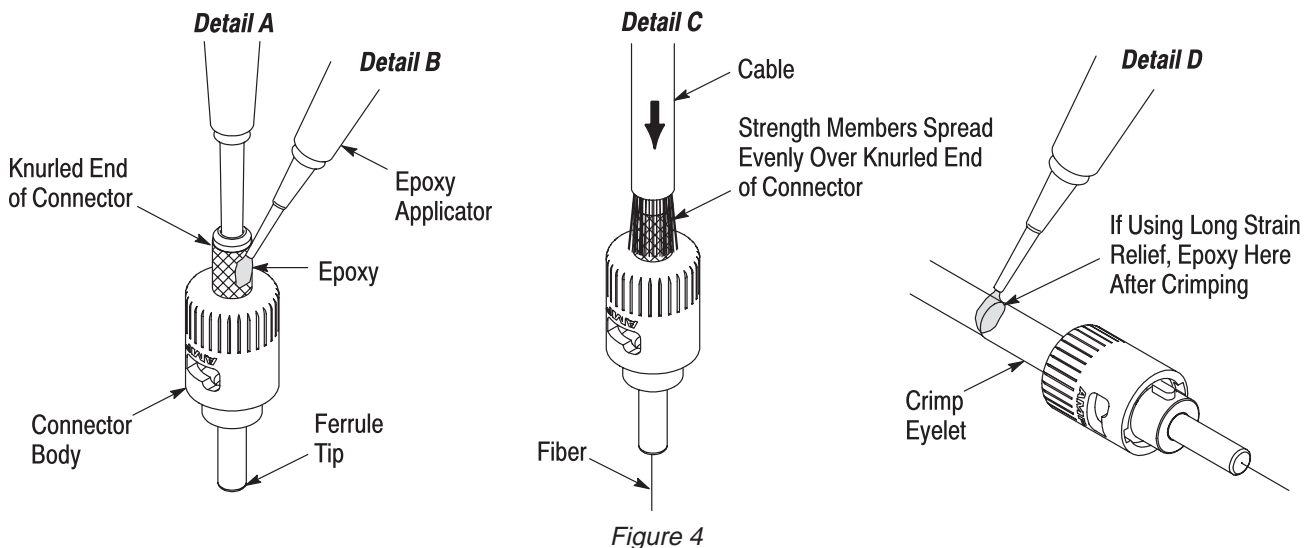

Figure 4
1. Remove the protective cover from the connector. Hold the connector with the knurled end up. Insert the tip of the epoxy applicator as far as possible into the connector body. See Figure 4, Detail A.
4. Apply a drop of epoxy to the outside of the knurled end of the connector, and distribute it evenly around the circumference of the knurled end. See Figure 4, Detail B. DO NOT allow any epoxy on the coupling nut or spring area.
appear at the tip of the ferrule. Refer to Figure 4, Detail C. Make sure that the strength members are spread out evenly over the knurled end of the connector. See Figure 4, Detail C.
7. Slide the crimp eyelet toward the connector until it contacts the connector shoulder, trapping the strength members against the knurled end. See Figure 4, Detail D.
5. If using the long strain relief, apply a thin layer of epoxy to the back of the crimp eyelet (refer to Figure 4, Detail D). Taking care not to break the protruding fiber, firmly hold the front of the eyelet, and slide the strain relief over the crimp eyelet until the strain relief bottoms.